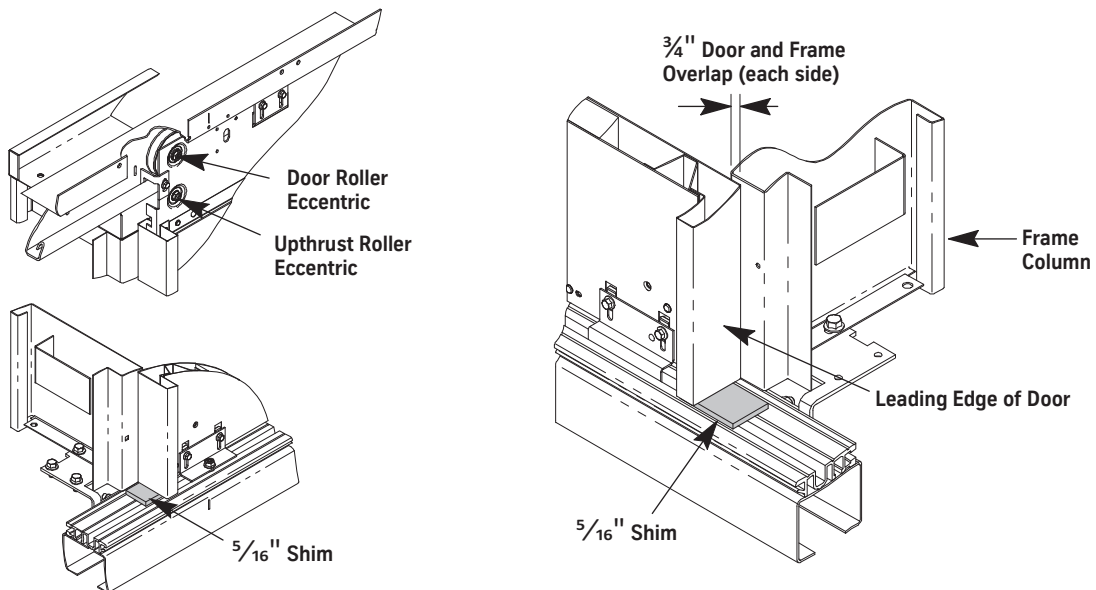

Figure 63 - Adjust Door-to-Sill Running Clearance
1. Place a 5/16" shim (running clearance) underneath the leading edge of the door. See Figure 63.